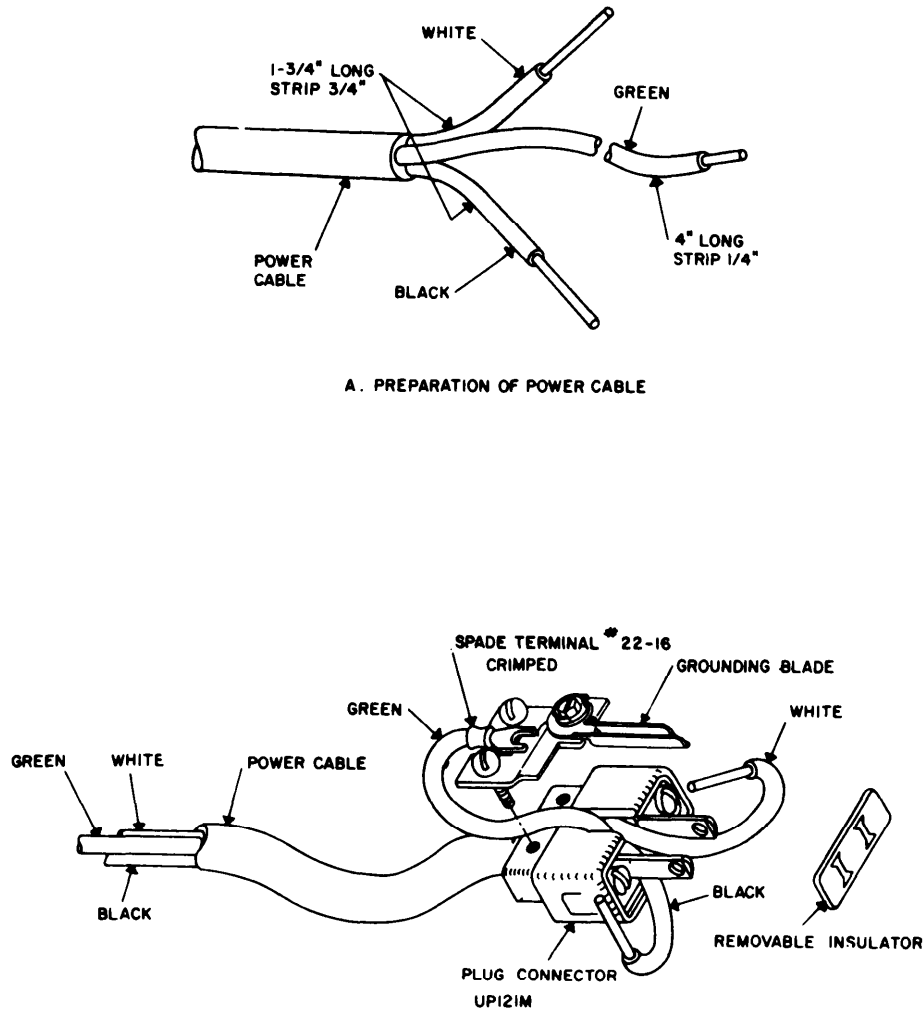

Figure 7-8. Replacement of power plug UP131M.
- a. Remove the old plug UP131 M from the power cord by taking out the the screws as shown (fig. 7-8).